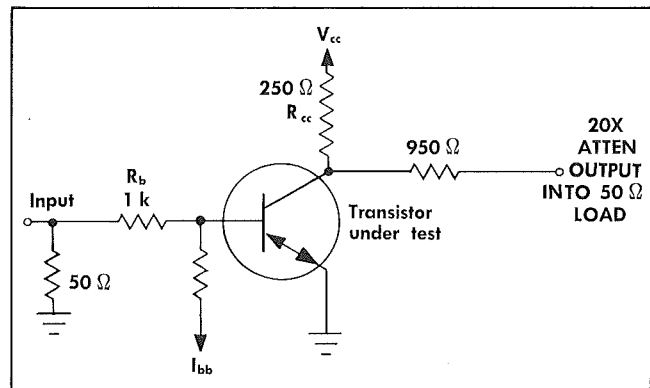
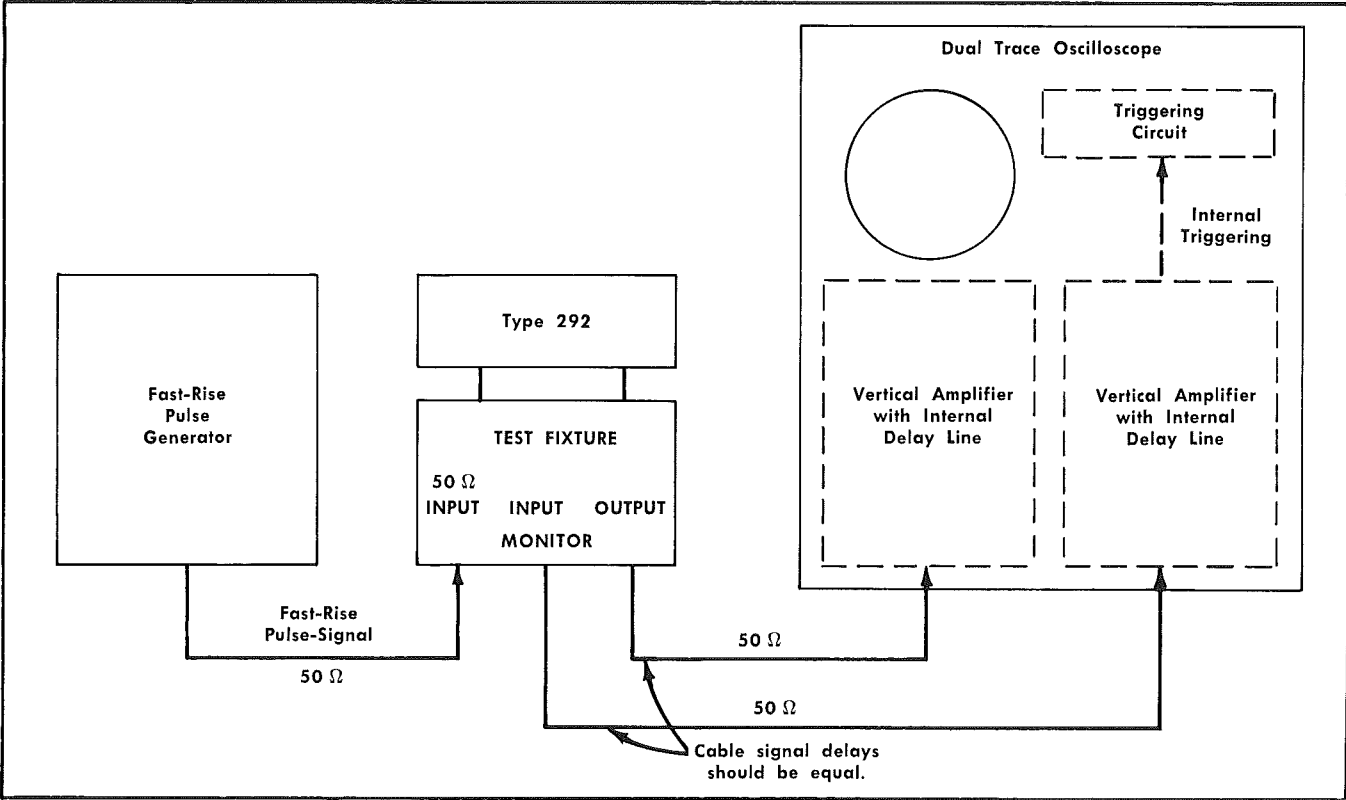
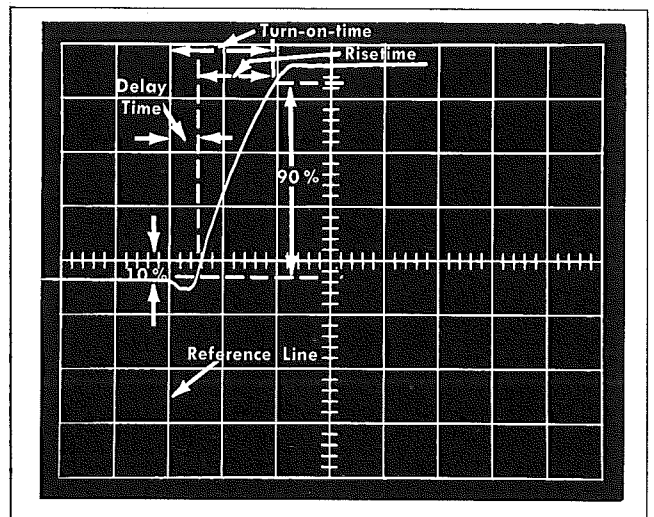
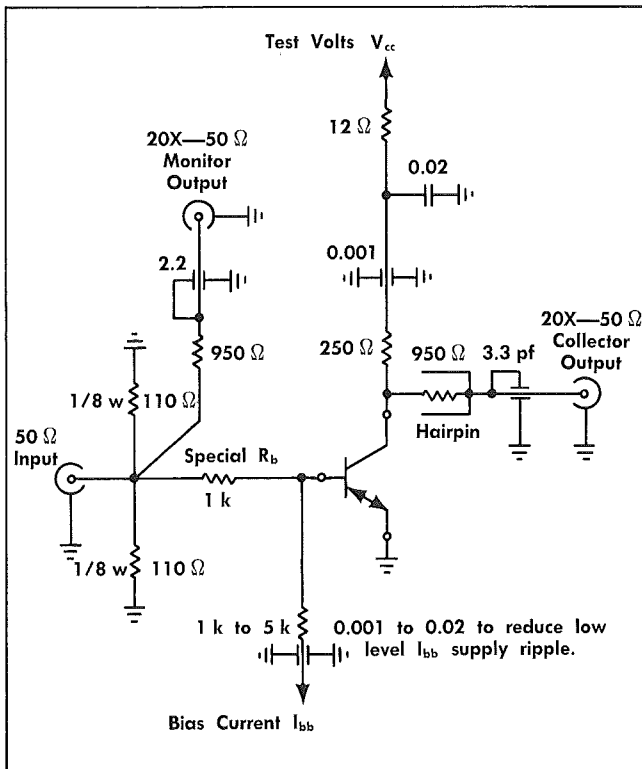

Fig 2-1. Simplified schematic of a grounded-emitter test circuit.
Fig. 2-4. Block diagram of Test System One.
Fig. 2-11. Measuring transistor turn-on characteristics from the leading edge of the collector output signal.
Fig. 2-15. Diagram of special grounded-emitter test fixture shown in Fig. 2-14.
Components in the grounded-emitter test circuit and applied voltages determine the potentials applied to the transistor. Fig. 2-1 is a simplified schematic of a grounded-emitter test circuit used with the Type 292.
Test system one uses a dual-trace oscilloscope with internal vertical-signal delay, and any fast-rise pulse generator. Fig. 2-4 shows the test setup. This system simultaneously displays the transistor base input signal on one trace and the collector output signal on the other trace. Transistor switching characteristics are determined by comparing the two signals. (This is a block diagram using the circuit of Fig. 2-1 and/or Fig. 2-15.)
6. Turn the pulse generator on. Set the Type 292 center TEST VOLTS switch to NPN or PNP, center BIAS CURRENT switch to NORMAL or INVERTED (depending on type of transistor under test), and set the oscilloscope control for a display of the collector output signal leading edge similar to that shown in Fig. 2-11. Use this display to measure transistor turn-on characteristics. (For dual-trace test systems, use the signal connectors as in Fig. 2-4 to obtain the displays.)
systems, use the signal connectors as in Fig. 2-4 to obtain the display.)